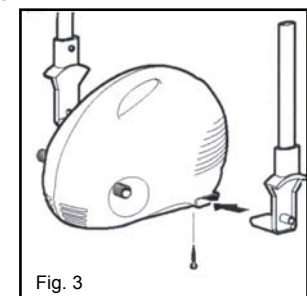

Fig. 3
- Place the pressure washer between the two support brackets and secure with the two (2) screws provided. (Fig. 3)